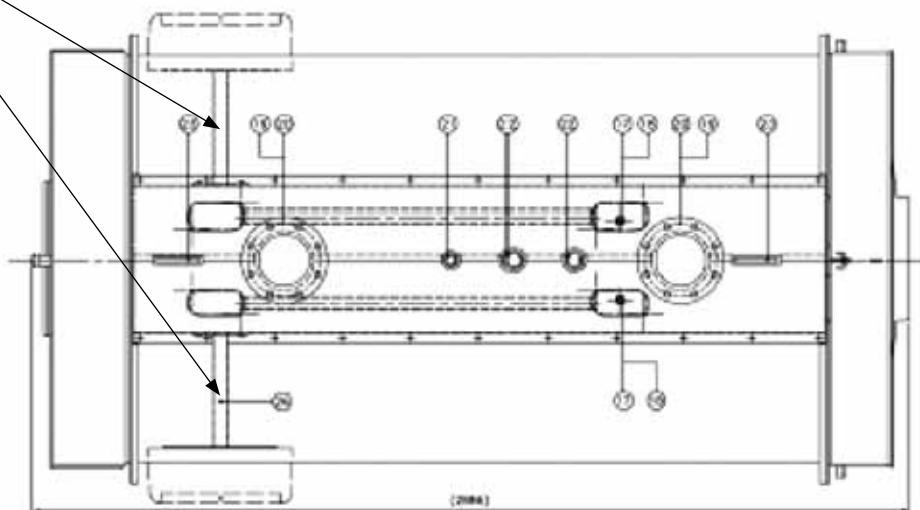

fig. 33
- 4)** perform the electrical connections of the control panel and fix it onto the boiler casing, using the screws provided (fig. 33 and 34).